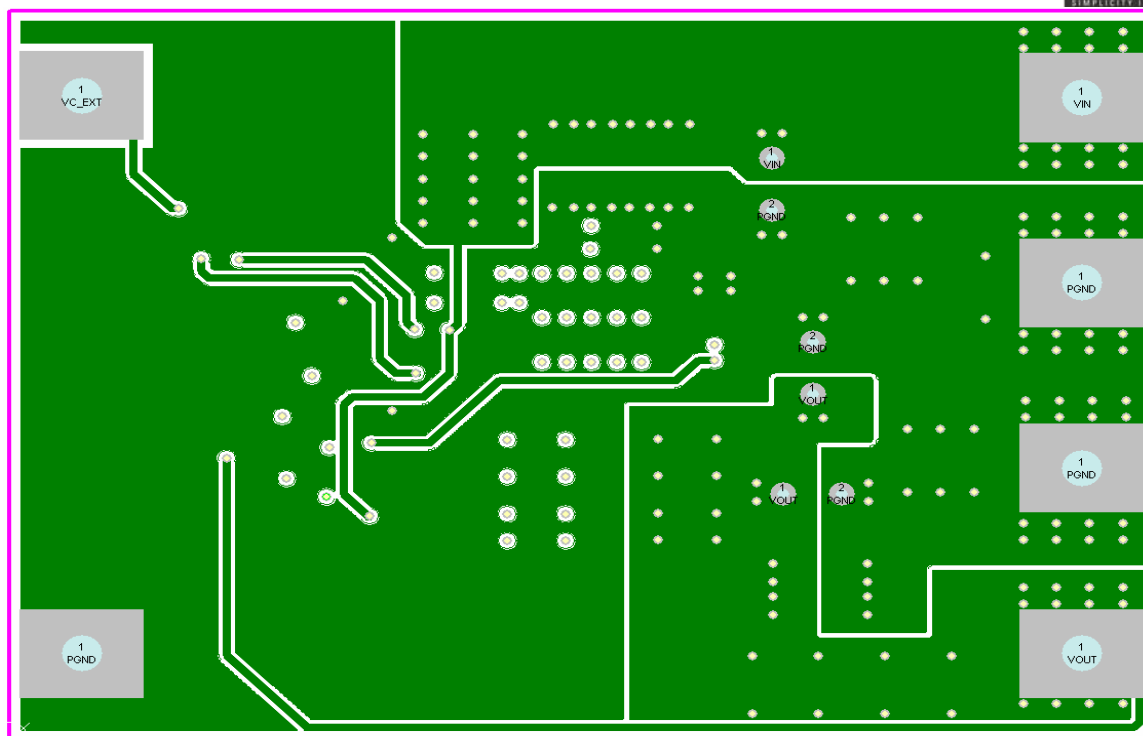

Figure 3c: IRPP3637-18A Reference Design mid-layer2 layout.
4. The feedback track from the output V_{OUT} to FB pin of the IC is routed as far away from noise generating traces as possible in mid-layer 2 as shown in figure 3c.